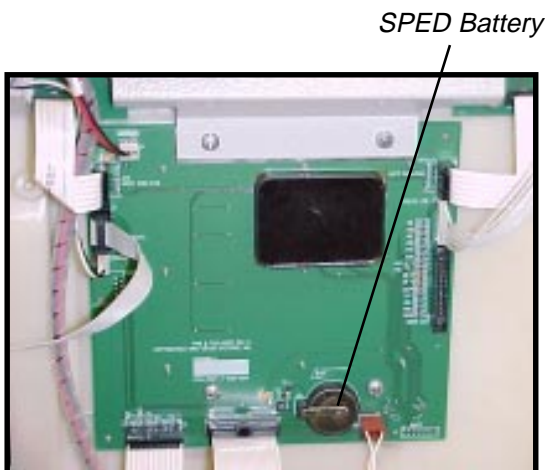

Figure 1-1. Battery Location.
1. Unlock and open the Top Enclosure of the Terminal. Turn off the AC power to the terminal by pushing the AC power switch on the Card Cage to the OFF (0) position.
2. The SPED keypad board is located just below the display mounting bracket on the back of the Front Panel. Locate the battery on the board, using Figure 1-1 as a guide.